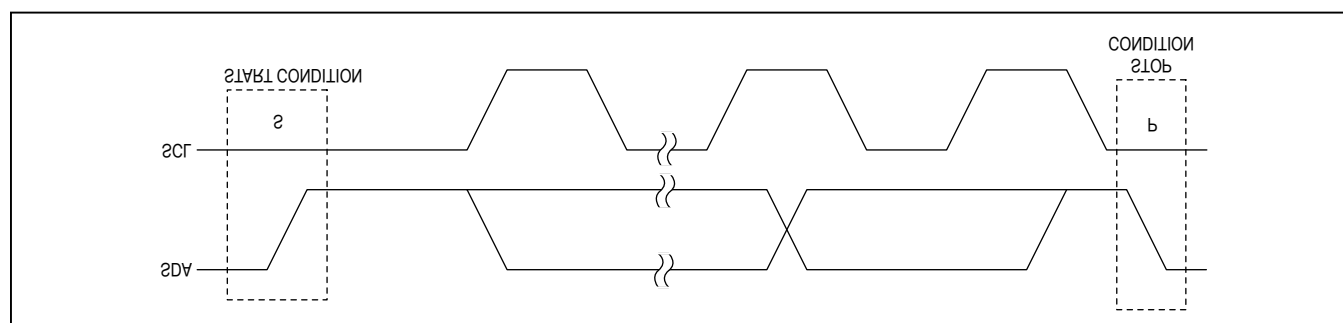
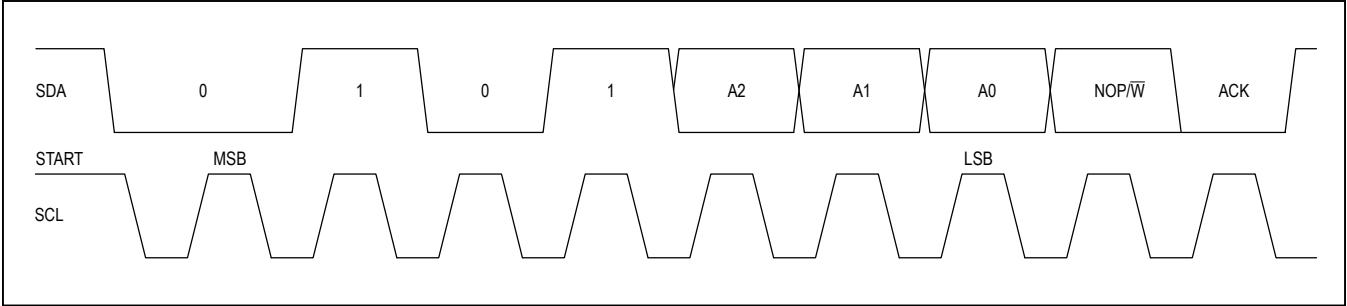

Figure 3. START and STOP Conditions
Figure 6. Slave Address
Each transmission consists of a START (S) condition (Figure 3) sent by a master, followed by the MAX5387 7-bit slave address plus the NOP/ \overline{W} bit (Figure 6), 1 command byte and 1 data byte, and finally a STOP (P) condition (Figure 3).
The MAX5387 includes a 7-bit slave address (Figure 6). The 8th bit following the 7th bit of the slave address is the NOP/ \overline{W} bit. Set the NOP/ \overline{W} bit low for a write command and high for a no-operation command. The device does not support readback.